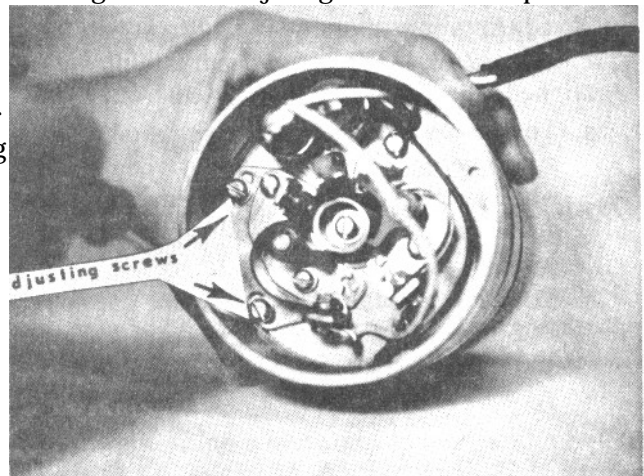

Fig. 116
2. Loosen the 2 point timing plate screws ("A", fig. 116) and, with the timing bar inserted into the crankshaft, move the plate counter-clockwise (down) to slow (retard) the timing or clockwise (up) to speed up (advance) the timing until the light just goes out. Retighten screws. Recheck timing by rotating the engine and observing light as the timing bar engages the slot in the crankshaft. (It should just go out.)